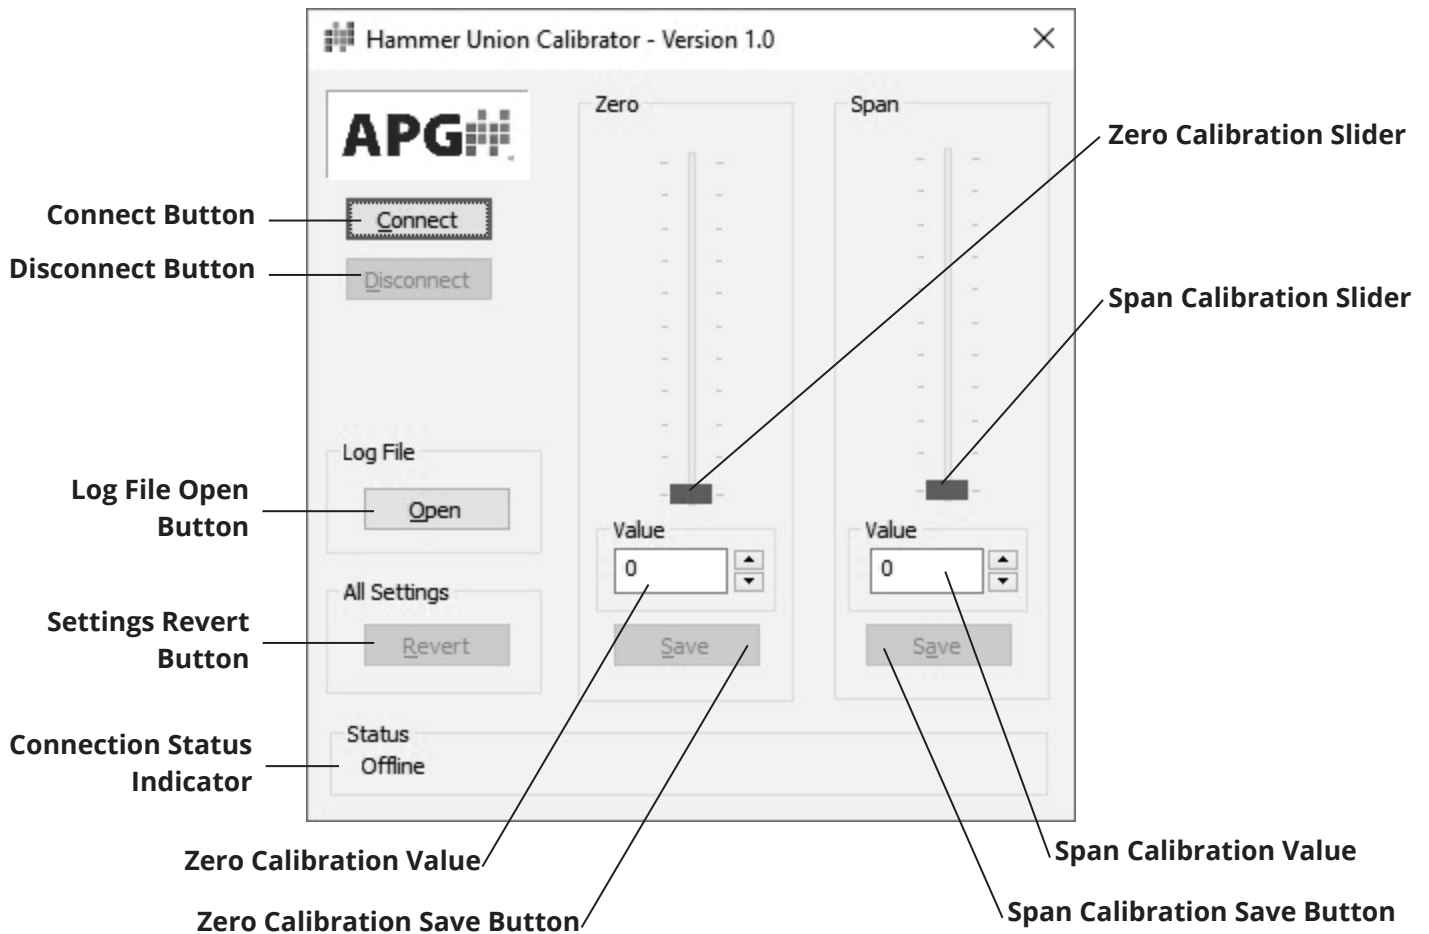
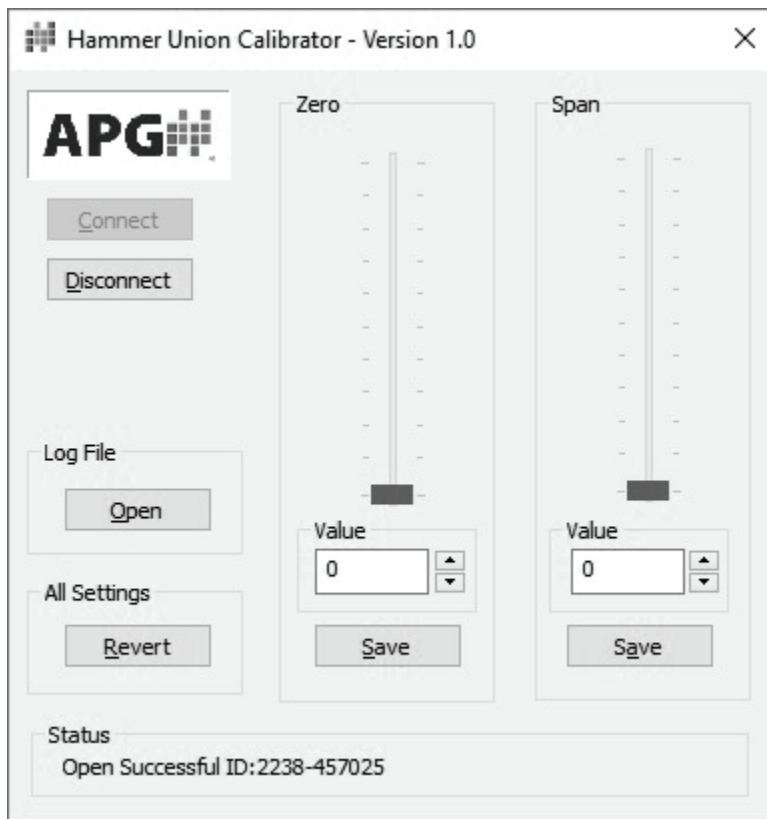

Figure 4.3
Figure 4.4
3. Click Connect Button (See Figure 4.3) to initiate connection between Hammer Union Calibrator software and HU1502I. Wait for Connection Status Indicator to read "Open Successful" (See Figure 4.4).
- 4A. With 0 pressure applied to the HU1502I, adjust Zero Calibration Slider (See Figure 4.3) until ammeter reads 4 mA or voltmeter reads 0 VDC, to the desired precision. Allow 1 second for ammeter/voltmeter reading to stabilize after adjusting slider.
pencil Note: Any adjustments made can be discarded BEFORE clicking a Calibration Save Button by clicking the Settings Revert Button (See Figure 4.3). Slider position and value will not reset, but ammeter/voltmeter reading will reset to value prior to slider adjustment.